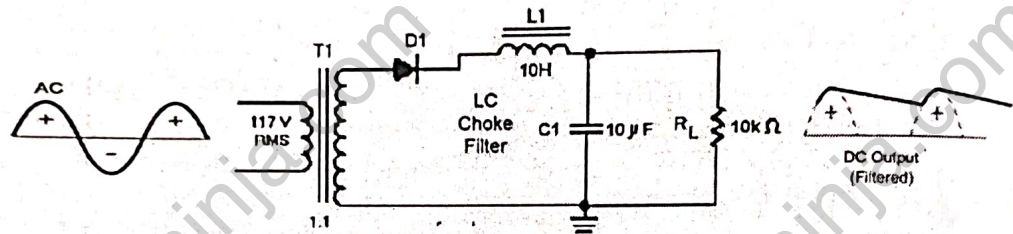

Figure 7.2: Half wave rectifier (HWR) with LC filter
1. Connect the circuit of rectifier with LC / π Filter on bread board as sh figure 7.2